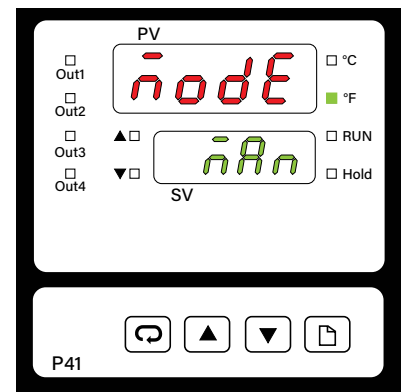

Figure 22
2. Press the  PAGE key until the top display says MODE (*mode*). Use the ▲▼ (UP & DOWN keys) to select "man". (See Figure 22).